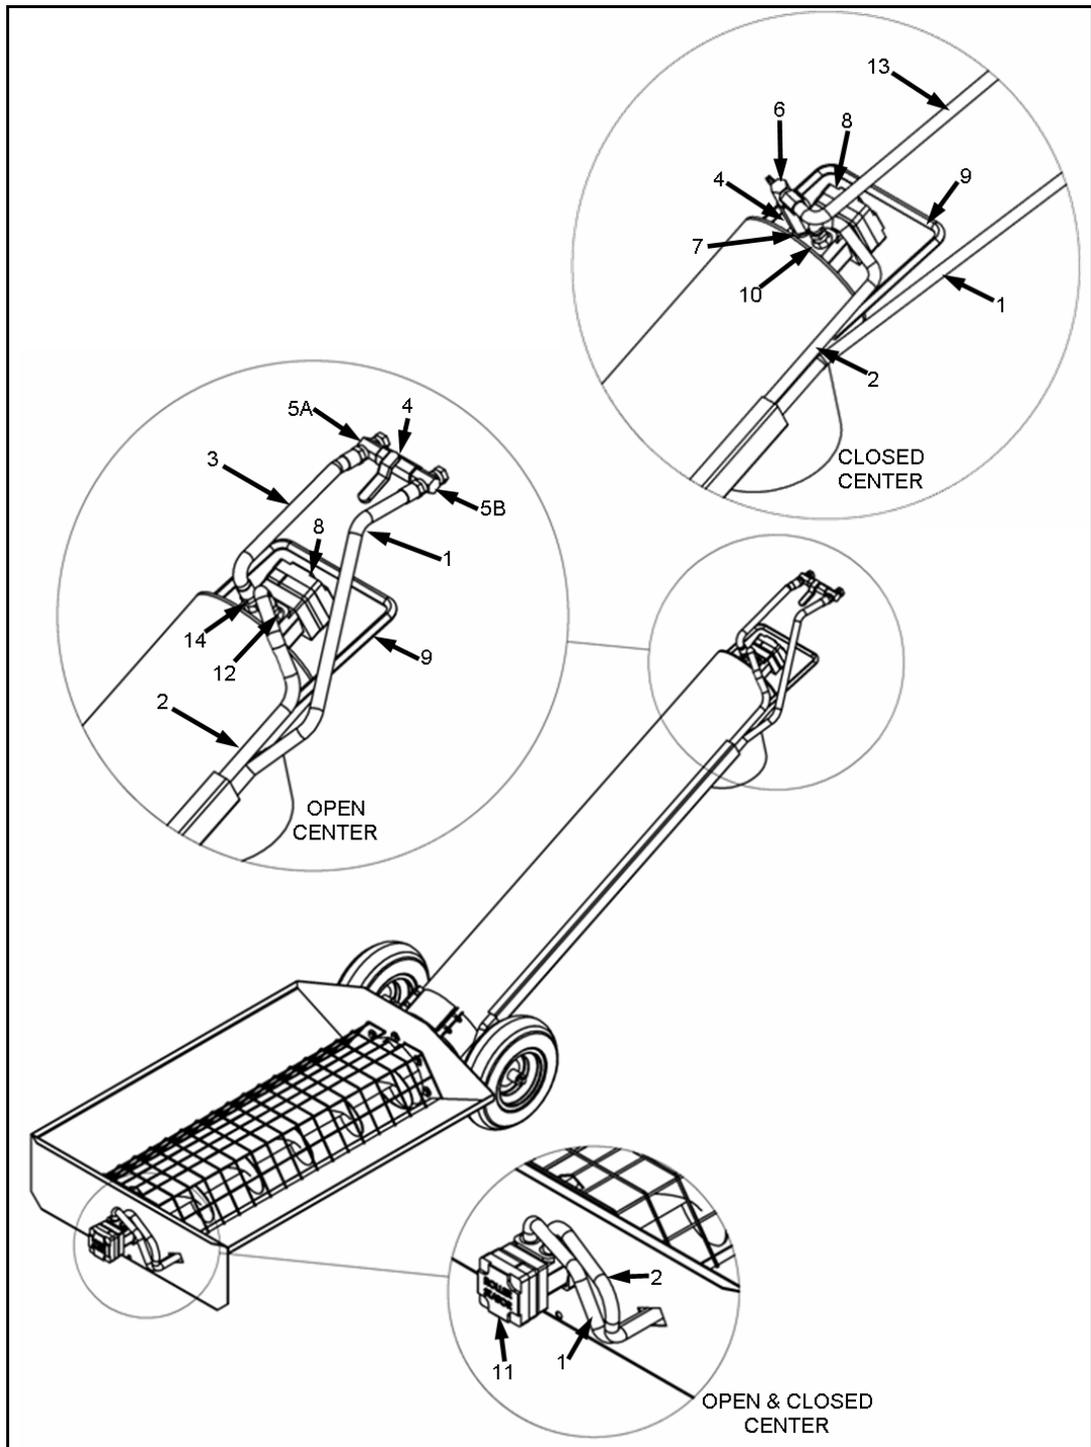

Figure 3.8
1. Connect the long hydraulic hoses (1 and 2) to the hopper hydraulic motor (11). Run these hoses (1 and 2) through the hopper guard (D). Refer to Figure 3.8.
2. **Open center hydraulics only:** Place the ball valve (4) on the handle (9) of the transfer auger. Connect hose (1) to part (5B) of the valve. Place the swivel fittings (12,14) into the ports of the tube hydraulic motor (8). Connect hose (2) to the swivel fitting (12) of the hydraulic motor (see Figure 3.8). Join the short hydraulic hose (3) into the swivel fitting (14) of the hydraulic motor. Place the other end of the short hose (3) into the port (5A) of the valve. Next, secure the hoses (1 and 2) to the tube. (See Figure 3.8.)
4. **Closed center hydraulics only:** Attach hydraulic line (13) to elbow. Connect hose (2) to the swivel fitting (7) on the hydraulic motor (8). Secure hoses (1 and 2) to the tube. (See Figure 3.8.)